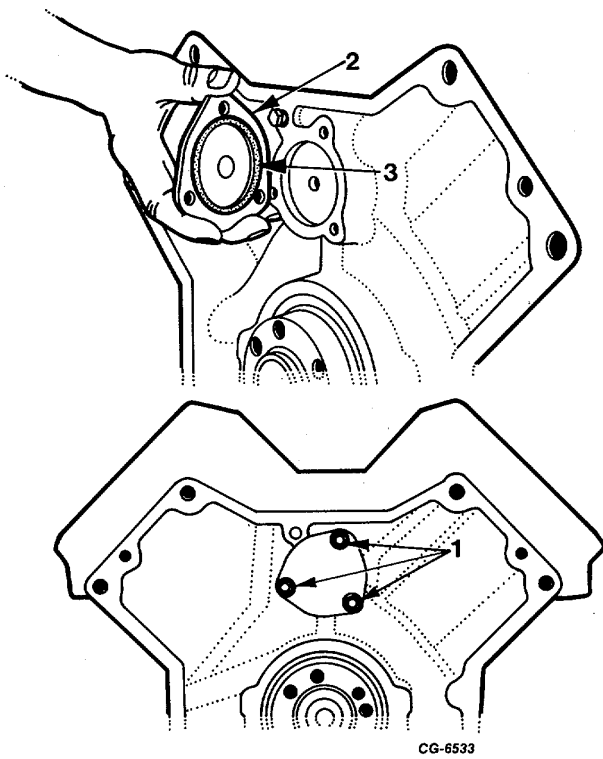

Fig. 68 Removing Camshaft Cover Plate
68. Remove three camshaft cover plate mounting bolts and lockwashers, remove cover plate and gasket from end of block (Figure 68).